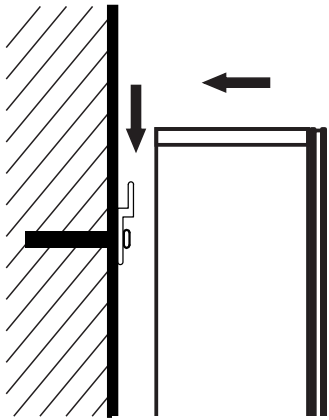
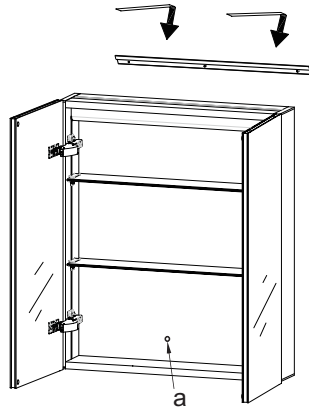
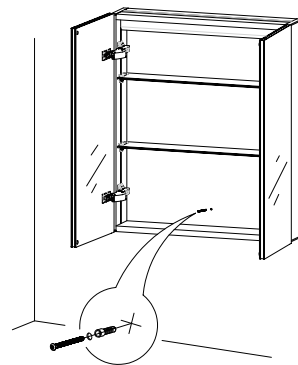

Fig. 3
Fig. 4
Fig. 6
2.1 Attach the mirror cabinet to the bar as shown in Fig. 3, open the cabinet door, and mark on the wall with a pencil (Fig. 4) through the backplane hole (a).
2.3 Repeat the operation as shown in (Fig. 3) and then tighten the screws on the backplane.(Fig. 6)